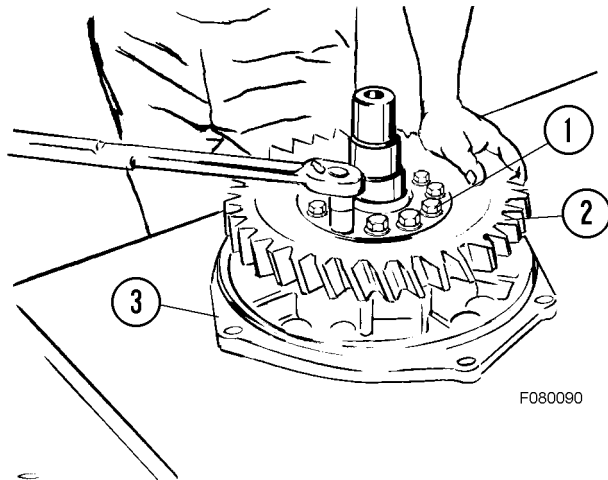

FIGURE 8-71. PUMP DRIVE GEAR INSTALLATION
77. Install gear (5) on boss (11).
78. Apply thread lock (p/n 09940-00030) to the threads of cap screws (1, Figure 8-71) Install the cap screws and tighten to **110 ± 12 N·m (81 ± 9 lb ft)**.